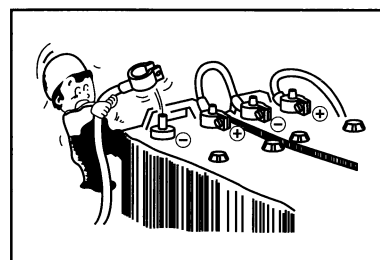

Figure 2-21
- When repairing the electric system or doing welding on the machine, it is needed to remove the negative pole (-) of the battery to prevent the current flowing. (Figure 2-21)